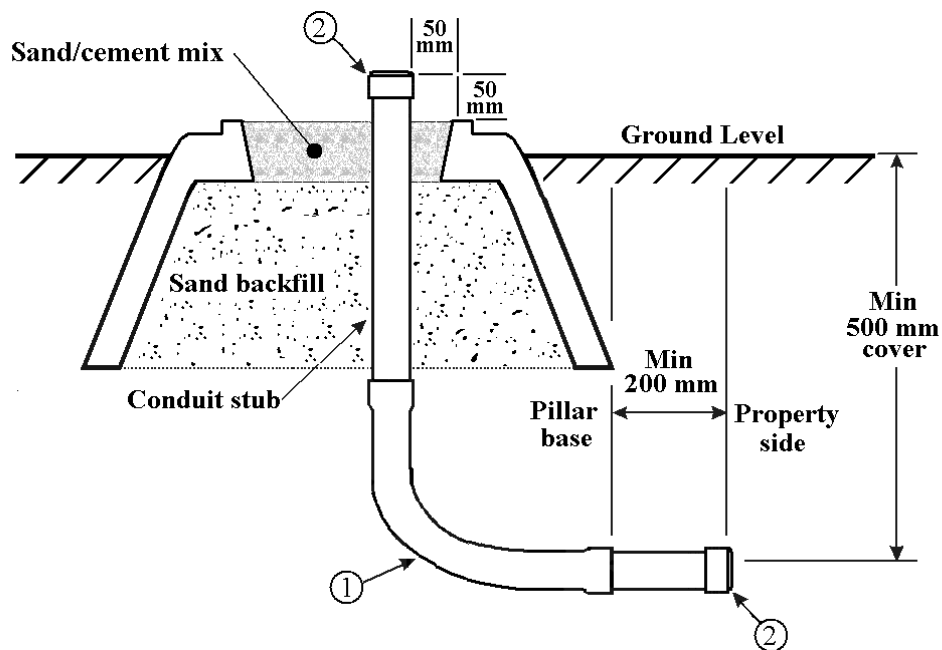

Figure 10 – Conduit Stub Details
- 10) The lug covers shall be arranged so that a minimum of 25mm clearance is maintained between any part of the lug cover and inner edge of the pillar base (Refer to Figure 10) allowing the turret to be fitted clear of the lug covers.